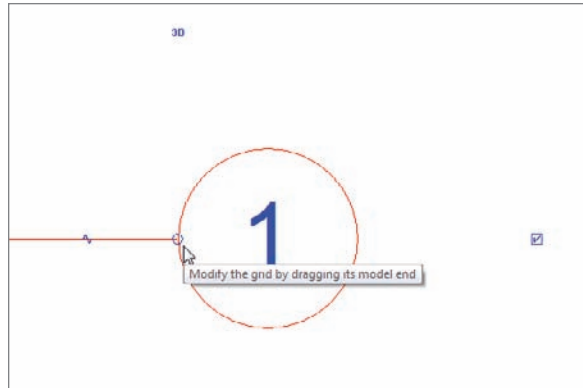

FIGURE 8.3 Examining the column grid grips
6. The column bubble needs to be moved. Press Esc twice (to clear the command), and select the column bubble. Notice the round blue grip, similar to Figure 8.3.